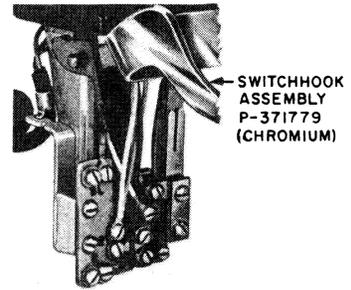

Fig. 21 - Cord Holder on G6 or G7 Handset Mounting
6.10 The cord holder on the G6 and G7 handset mountings will enable handset cords equipped with either an S hook or stayhook to be terminated (see Fig. 21).